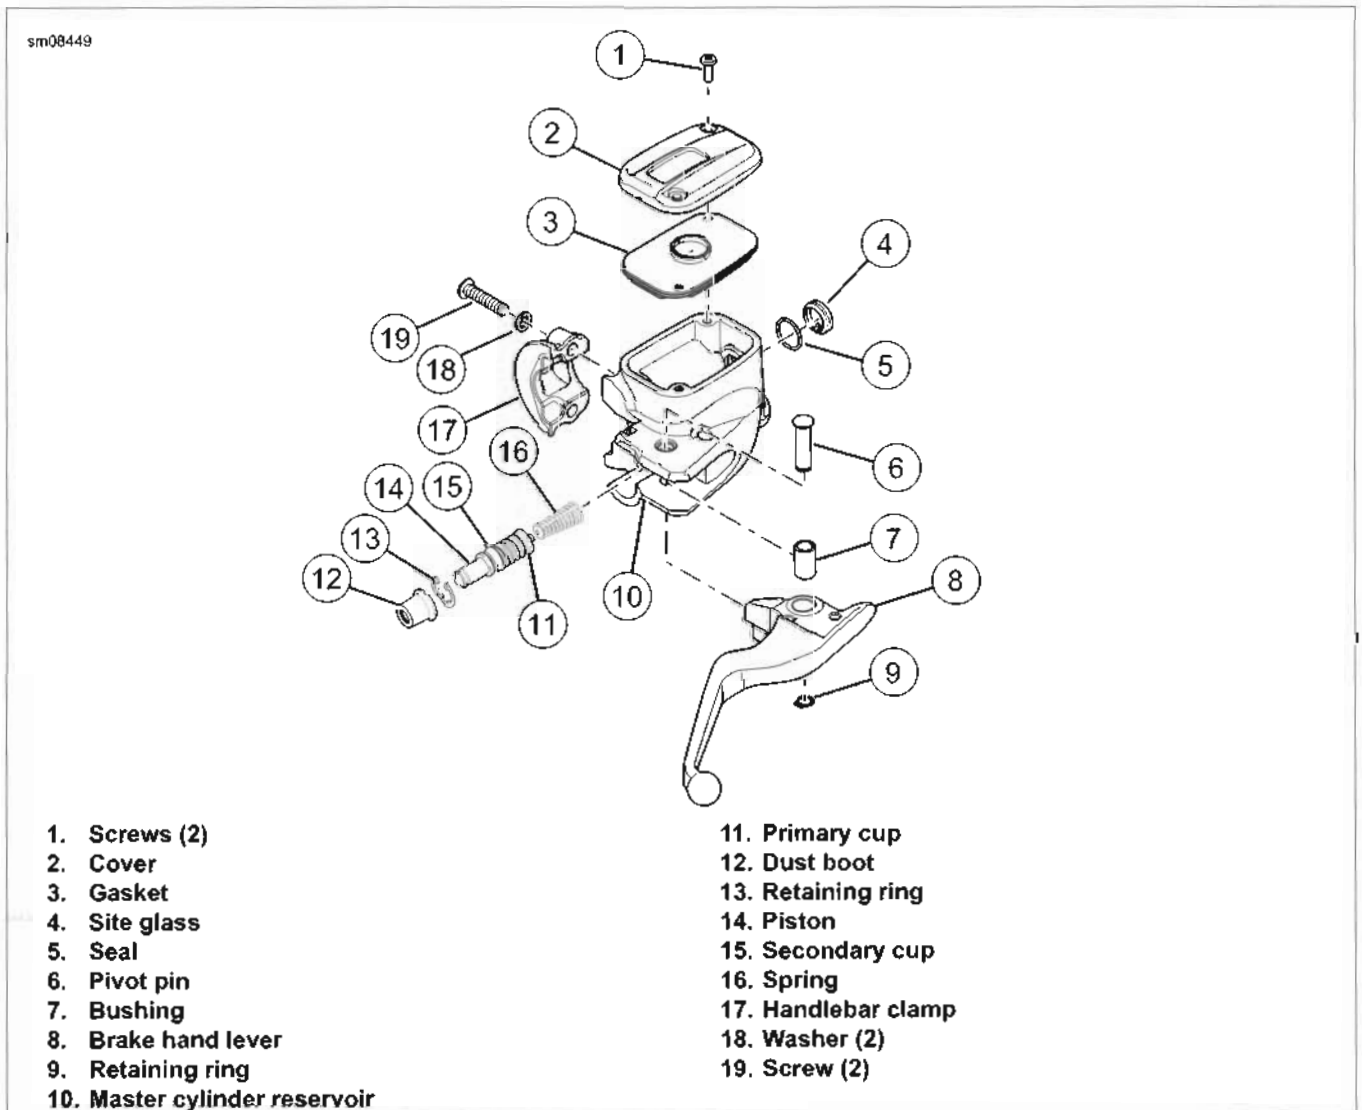

Figure 2-43. Front Brake master Cylinder
4. See Figure 2-43. Remove screws (19) and washers (18) to detach handlebar clamp (17) from master cylinder reservoir (10).
5. Remove retaining ring (9) from pivot pin groove at bottom of master cylinder bracket.
6. Remove pivot pin (6) and brake hand lever (8).
7. Remove dust boot (12) and discard.
8. Remove retaining ring (13).
10. Remove screws (1), cover (2) and gasket (3).
1. See Figure 2-43. Coat piston bore of master cylinder reservoir (10), piston (14), primary cup (11) and secondary cup (15) with CCI #20 BRAKE GREASE (supplied in kit).
- a. Press small end of spring (16) onto piston (14).
- b. Install piston/spring assembly into master cylinder reservoir (10) bore.
3. Press in on piston (14) and install **new** retaining ring (13).
4. Install **new** dust boot (12). Press large end against retaining ring. Small end should fit into groove on shaft.
5. Install gasket (3), cover (2) and screws (1). Do not tighten at this time.
6. Assemble brake hand lever (8) with pivot pin (6) to master cylinder reservoir (10).